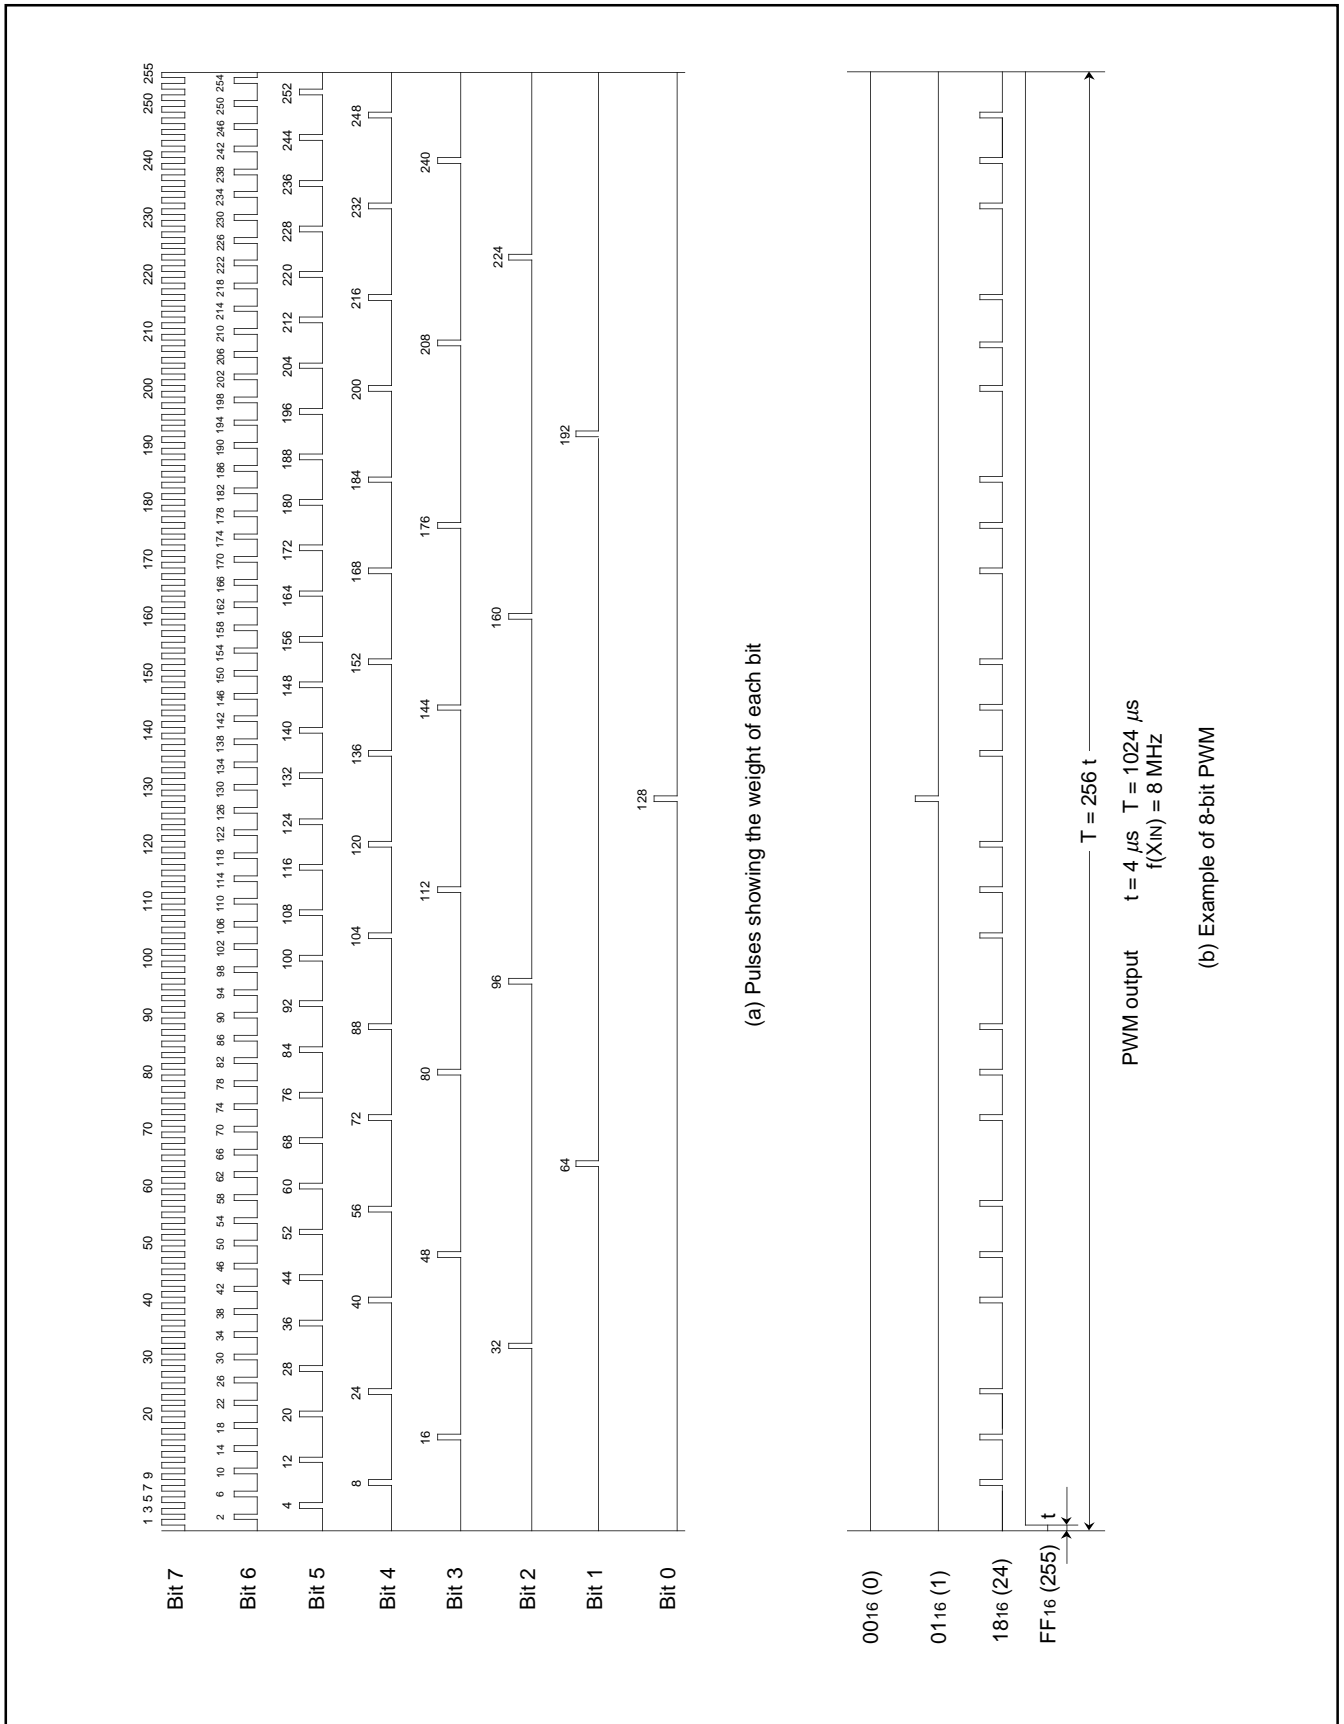

Fig. 36. 8-bit PWM Timing
Figure 36 shows the 8-bit PWM timing. One cycle (T) is composed of 256 ( $2^8$ ) segments. The 8 kinds of pulses, relative to the weight of each bit (bits 0 to 7), are output inside the circuit during 1 cycle. Refer to Figure 36 (a). The 8-bit PWM outputs waveform which is the logical sum (OR) of pulses corresponding to the contents of bits 0 to 7 of the 8-bit PWM register. Several examples are shown in
Figure 36 (b). 256 kinds of output (HIGH area: 0/256 to 255/256) are selected by changing the contents of the PWM register. A length of entirely HIGH output cannot be output, i.e. 256/256.